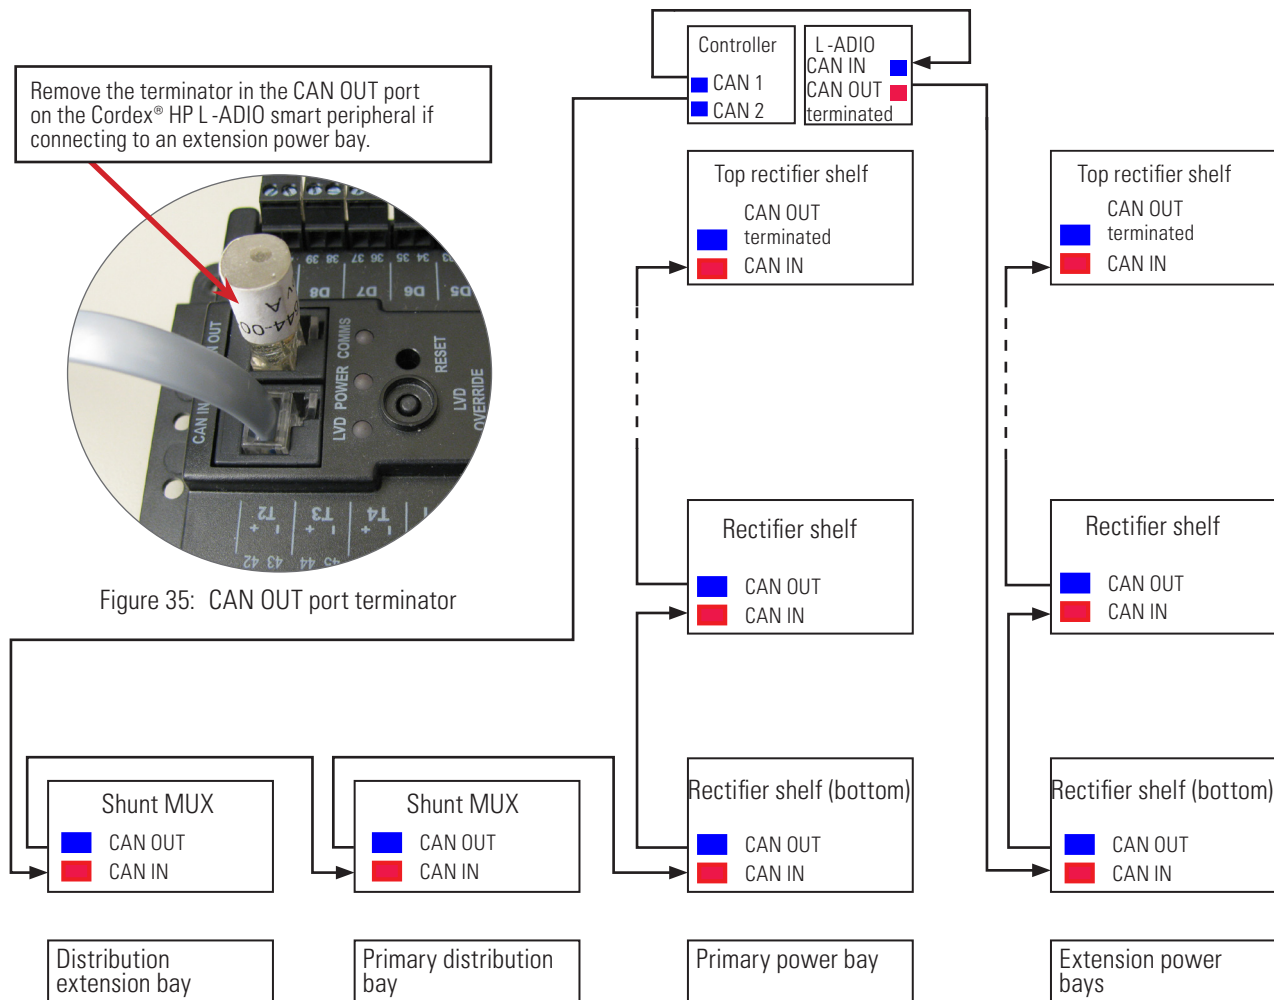

Figure 36: Controller, CAN bus cabling Cordex® HP 4.0/4.6 kW rectifier power bay
In your existing system, the CAN bus is terminated at the highest shelf in the outermost power bay. (See Figure 36 for the sequence of CAN bus cabling)
If optional shunt MUX are installed, the existing outer distribution bay is connected by a CAN bus cable to the controller. The CAN bus cable is then daisy-chained to shunt MUX in the next distribution bays; see Figure 36.
5. Daisy chain the remaining shunt MUX as shown in Figure 36 using cables from the cable kit where necessary.